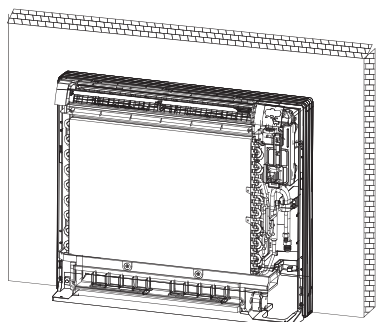

Fig.5-6
- Hang the indoor unit on the hook. (Refer to Fig.5-6)